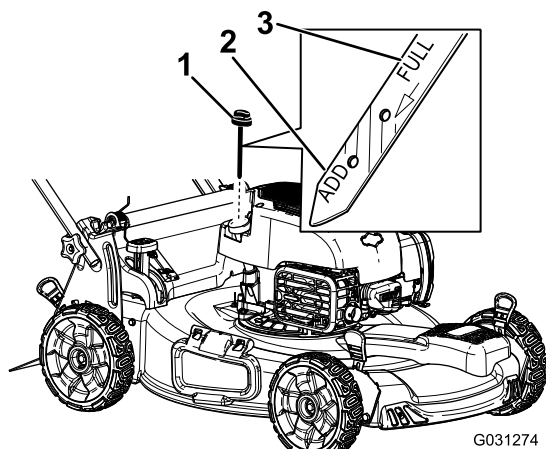

Figure 10
3. Remove the dipstick, wipe it clean, and fully install the dipstick (Figure 10).
4. Remove the dipstick and check the oil level (Figure 10). If the oil level is below the **Add** mark on the dipstick, slowly pour oil into the oil fill tube to raise the oil level to the **Full** mark on the dipstick. **Do not overfill.**